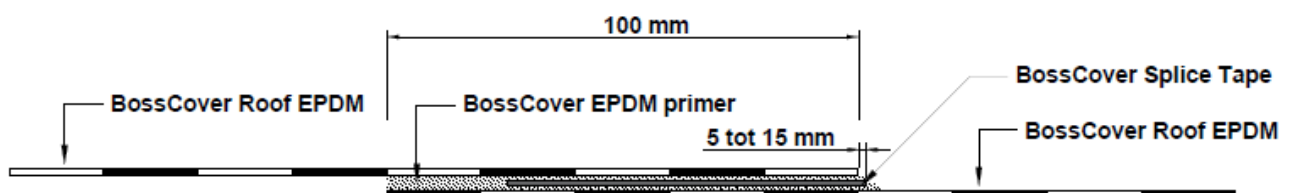

Fig. 6 – Overlapverbinding (langs / dwars)
4.2.4 Overlapverbindingen (Fig. 6)